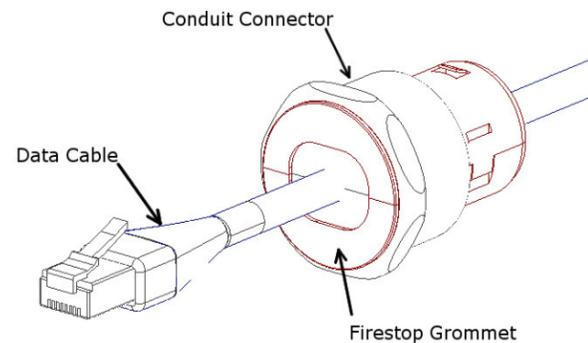

Figure 7
**Step 8** – Run the data cable through the conduit connectors located on sides of the *access point enclosure*. Pull the data cable through the conduit connector far enough to allow attachment to the access point (8" - 10"). Snap the grommet on to the cable and slide it inside the conduit connector (Ref. Figure 7).